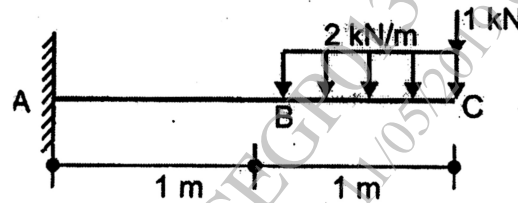

Fig3
3. (a) Find deflection at point B and C of cantilever beam shown in fig.3. Cross section of beam is 150 X 250 mm and take $E = 200$ GPa. [6M]